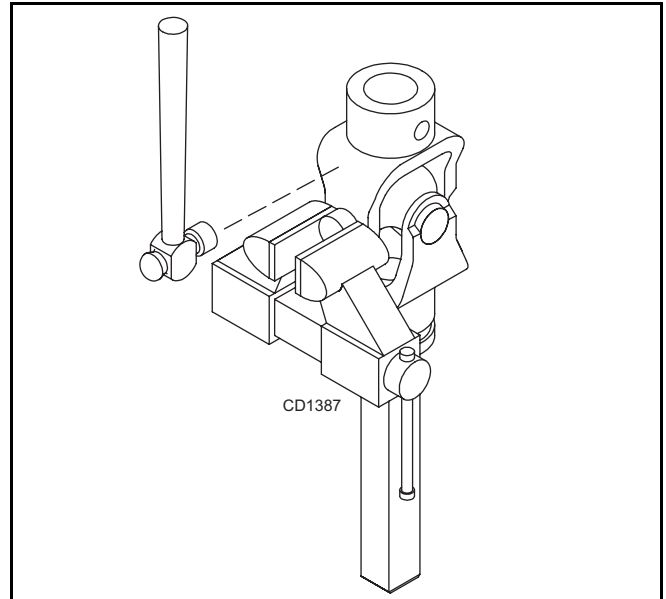

Figure 20
3. Clamp cup in vise as shown in Figure 20 and tap on yoke to completely remove cup from yoke. Repeat Step 2 & Step 3 for opposite cup.